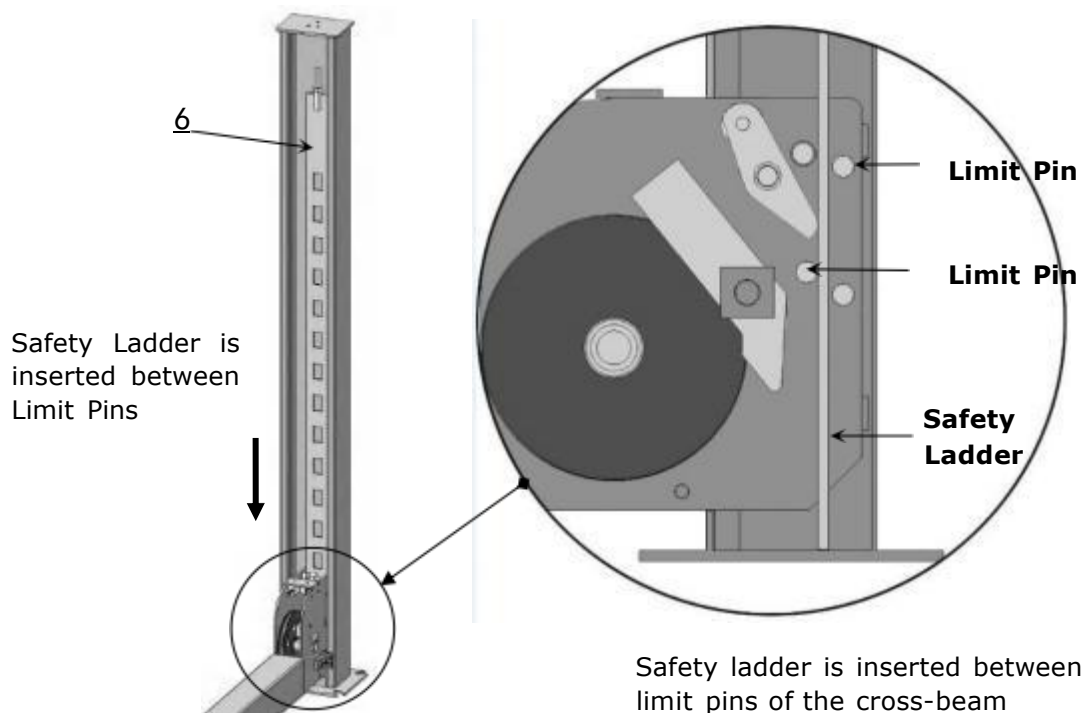

Fig. 17
1. Take off the pulley safety cover and unscrew the four upper nuts of the Safety ladders, and then adjust the four lower nuts to be at the same position, then install the safety ladders (See Fig. 17).